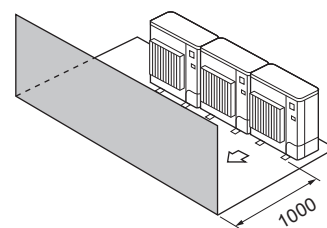

Fig. 3-14
- ③ Obstacles at front only (Fig. 3-14)